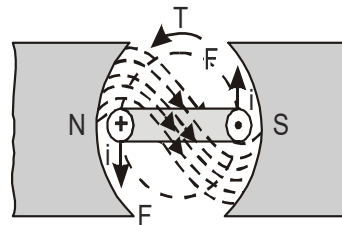

Fig. 4.66: Motor action
- (iii) *Law of interaction* : This law relates to the phenomenon of production of *force*, or *torque* i.e. whenever a current carrying conductor is placed in the magnetic field, by the interaction of the magnetic fields produced by the current carrying conductor and the main field, force is exerted on the conductor and torque is developed (see fig.4.66).